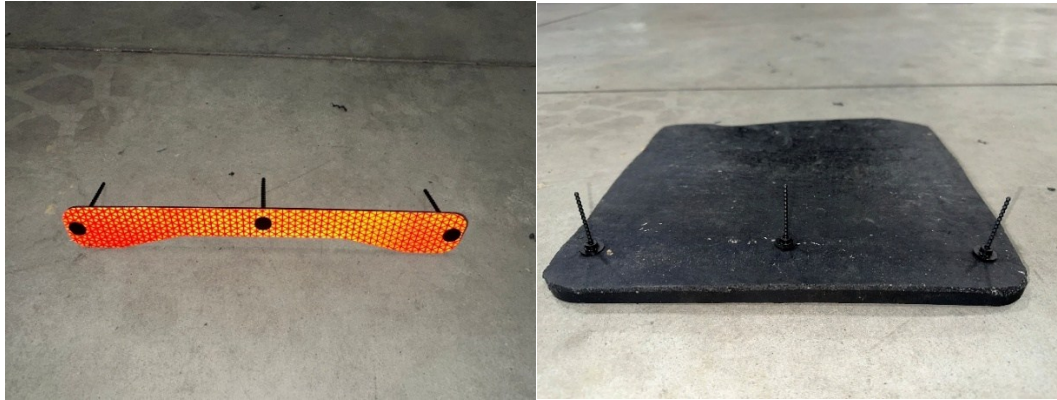

Figure 9
- a. Peel off backing of red reflector tape and stick this to the smooth side of the black plastic reflector backing (Figure 9).
- b. Drive plastic male rivets through the reflector holes and the lower 3 AEV rubber splash guard holes. This reflector will sit in the pre-molded recessed pocket on the rubber guard. Then add the plastic female rivets by feeding the male rivets through, ensuring that the flat part of the female rivet is touching the AEV splash guard (Figure 9).